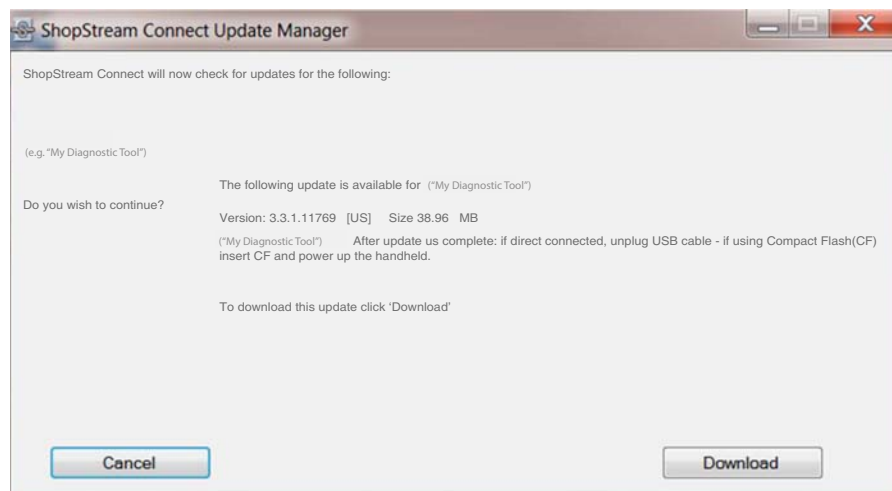

Figure 10-9
2. If service release updates are available, select **Next** to continue, then select **Download** and follow the on-screen instructions to complete the installation (Figure 10-9).